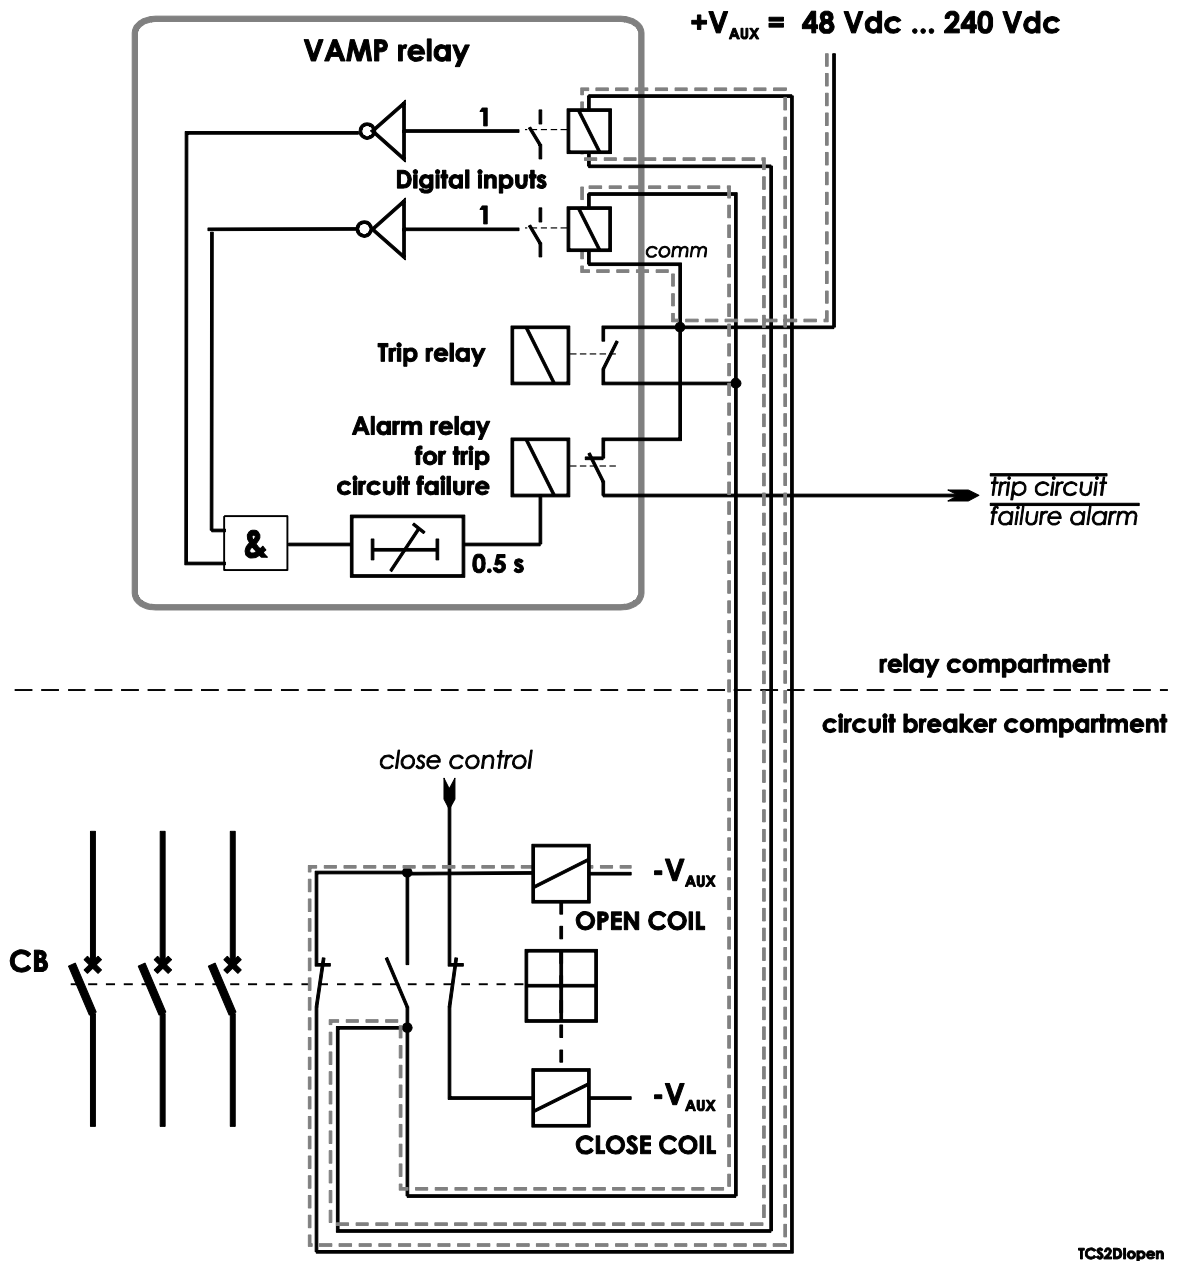

Figure 10.4.2-2 Trip circuit supervision with two dry digital inputs. The CB is in the open position. The two digital inputs are now in series.
- Both inputs are configured as normal closed (NC).
- Both digital inputs must have their own common potential. Using the other digital inputs in the same group as the upper DI in the Figure 10.4.2-1 is not possible in most applications. Using the other digital inputs in the same group as the lower DI in the Figure 10.4.2-1 is limited, because the whole group will be tied to the auxiliary voltage  $V_{AUX}$ .
Figure 10.4.2-1 Trip circuit supervision with two dry digital input. The CB is closed. The supervised circuitry in this CB position is double-lined. The digital input is in active state when the trip circuit is complete. This is applicable for dry inputs DI7...D20 only.
**Note:** If for example DI13 and DI7 are used as the upper and lower digital inputs in the Figure 10.4.2-2, the usage of DI8 ... DI14 is limited to the same circuitry sharing the  $V_{AUX}$  in the common terminal and the DI14 ... DI18 cannot be used, because they share the same common terminal with DI13.